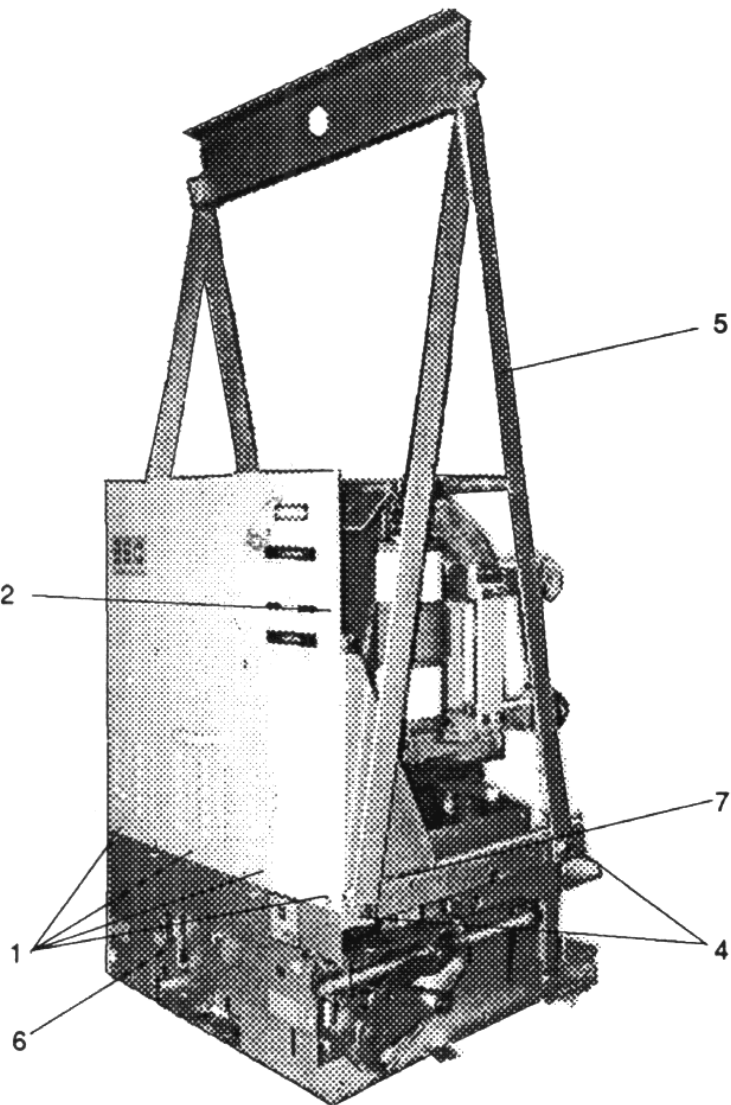

Fig 1- Circuit Breaker Assembly with Lifting Yoke Installed
Referring to Fig. 1, if it is necessary to raise or move the breaker, attach a lifting yoke (5) at points 4 on both sides of the truck, or a fifth wheel at point 6 to transport the breaker as required.
The front cover and interphase barrier assemble (2, Fig. 1) must be removed for access to and inspection of the vacuum interrupters, and their associated adjustments.
Removing Front Cover and Interphase Barrier (See Fig. 1)
Installing Front Cover and Interphase Barrier (See Fig. 1)